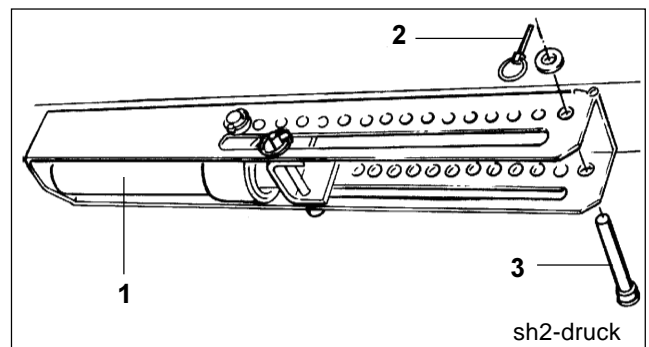

Fig. 13.8
- Relieve the hydraulic ram (Fig. 13.8/1) from pressure.
- Insert the pin (Fig. 13.8/3) in one of the holes of the quadrant plate and secure by using a clip pin (Fig. 13.8/2).